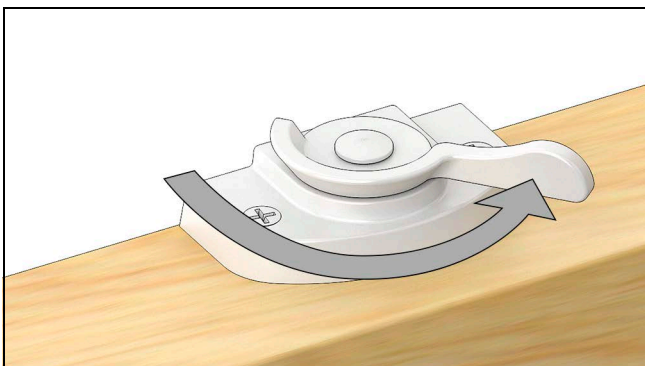

Figure 85
1. Remove bottom sash. Rotate lock handle to 135° position to unlock. See Figure 85.